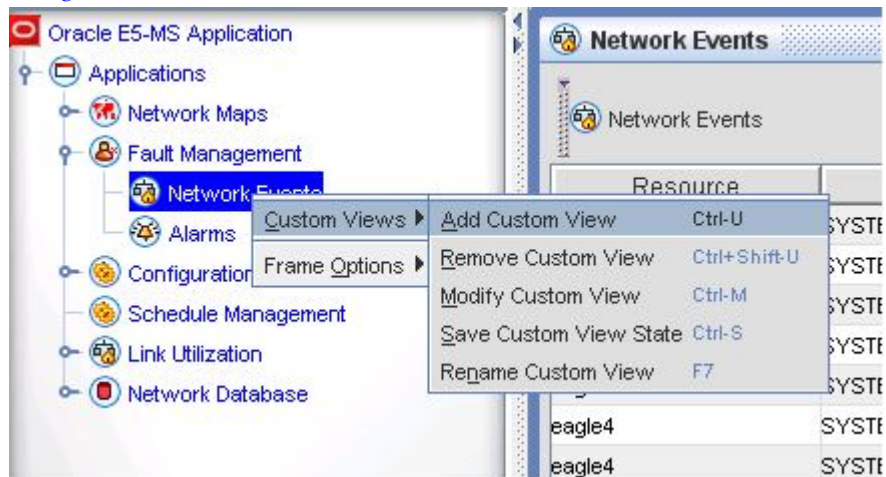

Figure 103: Add Custom View By Using Left Navigation Pane
- Right-click on the node (Network Events or Alarms) in the left navigation pane, and choose **Custom Views > Add Custom View** as shown in Figure 103: Add Custom View By Using Left Navigation Pane.